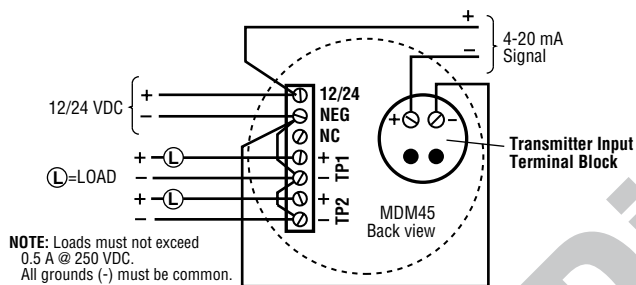

Figure 1: Common Transmitter Power Source
1. Connect a ground wire to the NEG terminal of the MDM45 (Fig. 1).